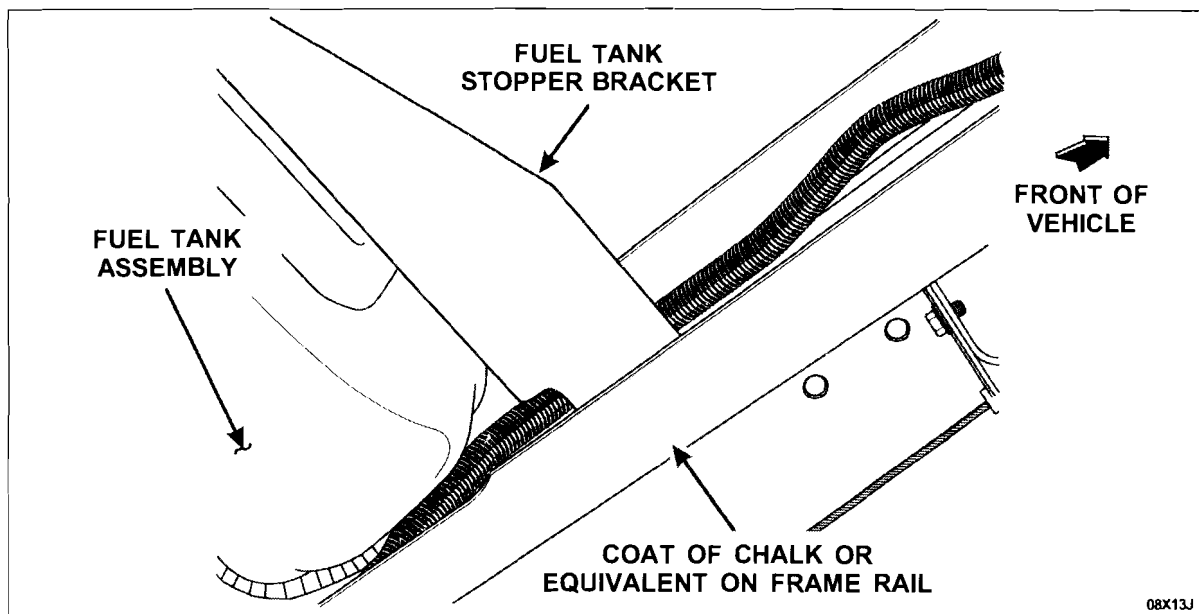

FIGURE 10
14. Apply a coat of chalk, or equivalent, to the frame rail just under the fuel tank stopper bracket. See Figure 10.